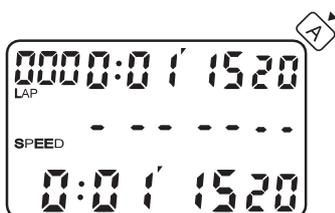

Fig. 16
- Press A to start, the display is as shown in Fig.16.